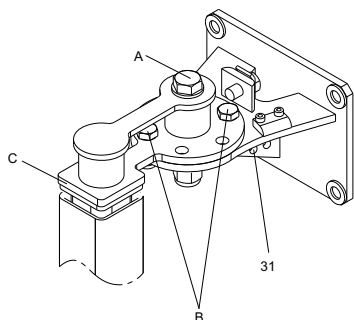

Fig. 19 Top fixation
7. Shorten the column profile (5, fig. 16) to the correct length to match the position of insulator (C, fig. 19) at the top fixation bracket. A gap of 5 to 10 mm between collar of insulator and column profile is optimal. See fig. 19.
8. Remove the insulator and the turnable metal part from the top fixation bracket by removing the centre screw (A) and the two fixation screws (B). See fig. 19.
10. Fit the turnable metal part, now fitted on top of the column profile, to the already mounted top fixation bracket. Tighten the three screws (A and B in fig. 19) in the desired position. You can adjust the angle in steps of 7.5° .
17. Mount the top end of the safety wire to the hole (31 in fig. 19) of the top fixation bracket using a shackle. The other end of the safety wire ends in a shackle through which the lifting wire must run.